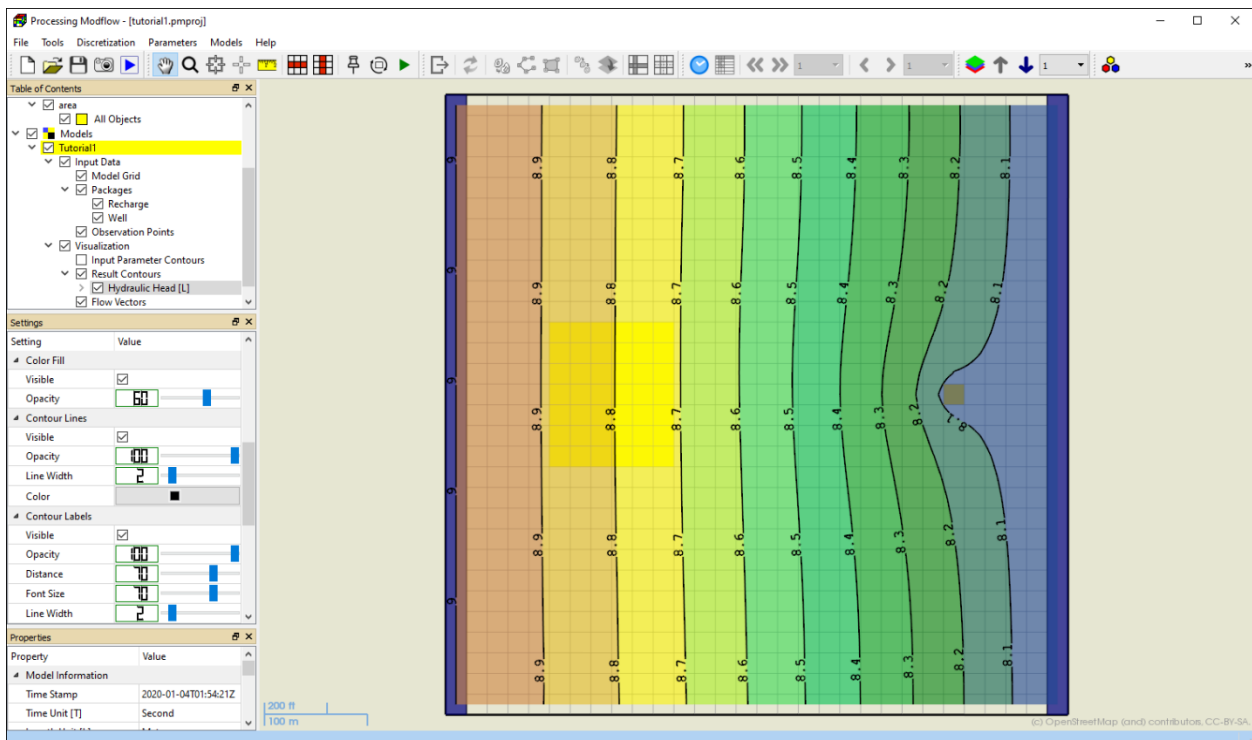

Figure 14. Color-filled hydraulic head contours of Layer 1
3. You may click on the “Hydraulic Head [L]” item and adjust its display with the controls on the settings window. For example, Figure 14 shows the color-filled contours with a larger font size for contour labels. See User Guide of PM for details about the available settings.